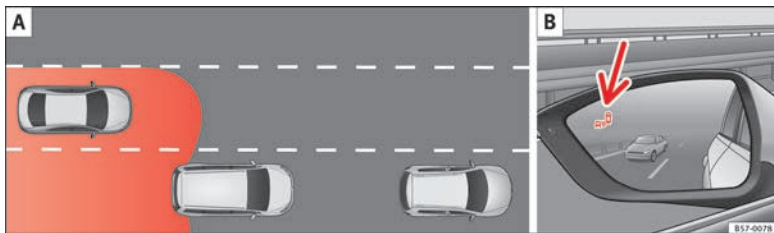

Fig. 209 Schematic diagram: **A** Passing situation with traffic behind the vehicle. **B** Indication from the blind spot detector in the left-hand external mirror.
the outside »» Fig. 208. The sensors monitor both the blind spot and traffic behind the vehicle »» Fig. 209, »» Fig. 210. The range to the sides of the vehicle is a bit larger than the width of a lane.
In the following situations, an indication will be displayed in the external mirror **»» Fig. 209 B** (arrow) or **»» Fig. 210 B** (arrow):
- When being overtaken by another vehicle **»» Fig. 209 A**.